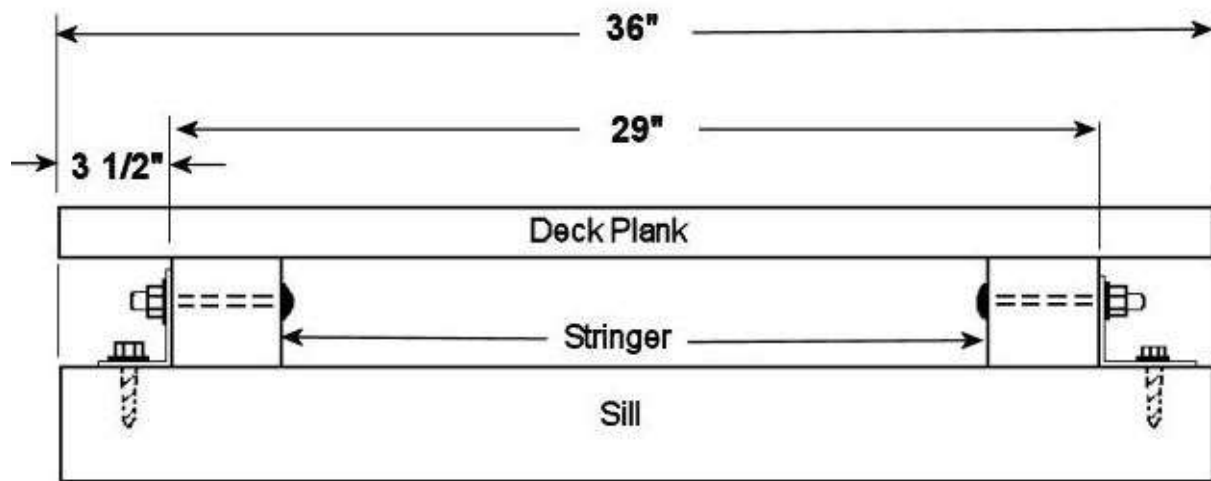

Figure 5 – ACQ Lumber Sill Assembly Detail
**Lumber Sills** - Experience has shown that nailing the end of the stringer to the sills, either by nail toeing or driving spikes vertically through the stringer, stresses the wood and may cause a cracked stringer at the time of assembly or later from the stress of use and environmental effects due to the rigidity of the attachment. Stringers bolted to a metal bracket provide a more flexible attachment for stringer deflection. Figure 5 shows an end view of the attachment of the boardwalk stringers to the lumber sill.